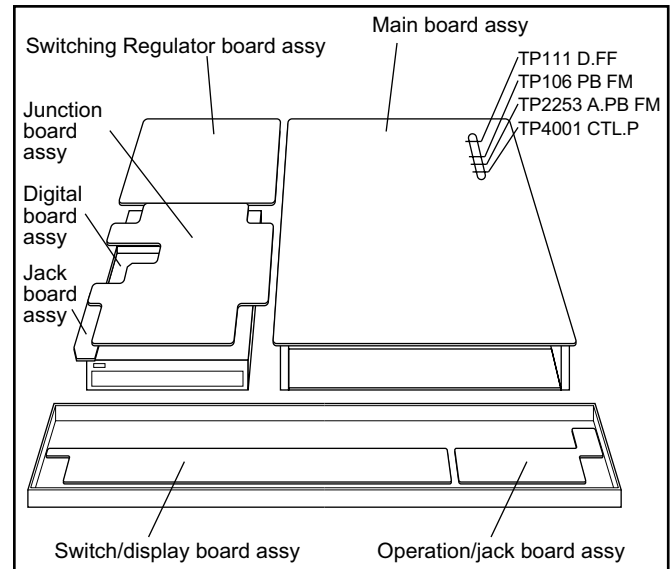

Fig.2-2a
- (1) Refer to the disassembly procedure and perform the disassembly of the major parts before removing the Mechanism assembly.
- (2) Remove the screws that fix the Mechanism, Main board assembly to the bottom chassis. If any other screws are used to fix the boards, remove them also.
- (3) Remove the combined Mechanism, DVD unit, Switching regulator, digital, junction and Main board assemblies.
- (4) If any other major parts are used, remove them also.
- (5) Connect the wires and connectors of the major parts that have been removed in steps (1) to (4). (Refer to Fig. 2-2a.)
- (6) Place the combined Mechanism, Main board and other board assemblies upside down.
- (7) Insert the power cord plug into the power outlet and then proceed with the diagnostics and servicing of the board assembly.